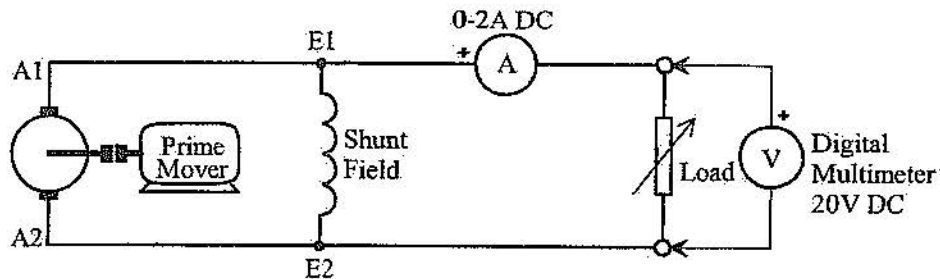

Figure 1
1. Connect the generator as shown in figure 1.